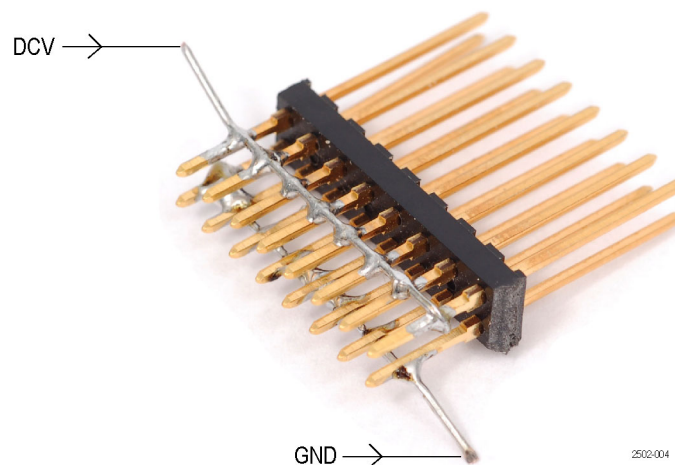

Figure 3: Threshold Accuracy test fixture
1. Set the square-pin strip down and lay a wire across one row of pins on one side of the insulator as shown. Leave some extra wire at one end for connecting to a test lead. (See Figure 3.)